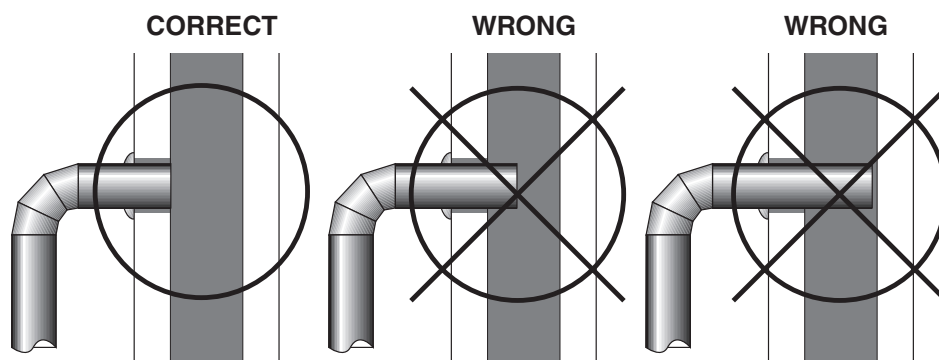

Figure 10 – Stovepipe/Flue Connections
1. The crimped end of the stovepipe fits inside the stove flue collar. Secure with three (3) sheet metal screws. The first section of connector pipe must be single walled to properly attach to the stove collar. Install additional pipe and elbow with the crimped end towards the stove. This will allow any condensation in the flue to run back into the firebox.
4. The pipe cannot extend into the chimney flue (figure 10).
5. Secure pipe/elbow sections with three sheet metal screws at each joint to make the piping rigid. Secure pipe/elbow sections with a minimum of three (3) equally spaced sheet metal screws at each joint and at the stove collar to make the pipe rigid.
6. It is recommended that no more than two (2) 90° bends be used in the stovepipe installation. The use of more than two 90° bends may decrease the amount of draw and possibly cause smoke spillage. Where possible, use only corrugated (non adjustable) elbows. These provide a better seal.
7. The connector pipe must not pass through an attic or roof space, trusses, closet, or any concealed space, floor, ceiling, wall, or combustible construction. (See Chimney Connector Systems & Clearances, page 12.) A UL 103 HT (US)/ ULC-S629 (CDN) Listed Chimney System must be used from the first penetration of ceiling or wall to the chimney cap.
4. Install the stovepipe into the thimble as far as possible without extending past the flue lining (see figures 10 & 11 on pages 8 & 9).